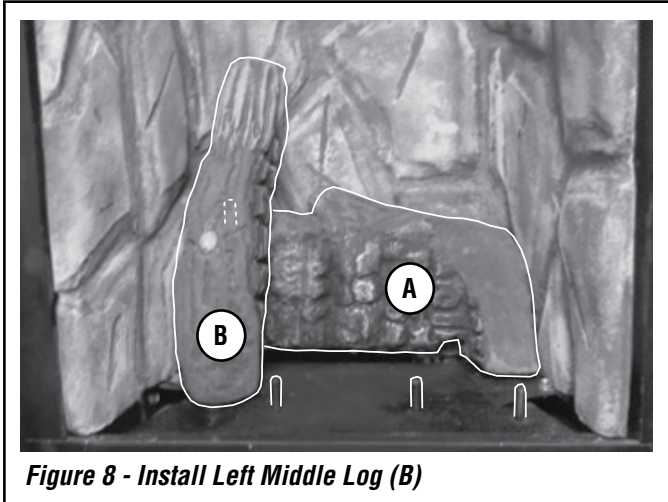

Figure 8 - Install Left Middle Log (B)
2. Place the left middle log (B) as shown in Figure 8. Position the hole on the bottom of log B over the corresponding locating pin on Log A.